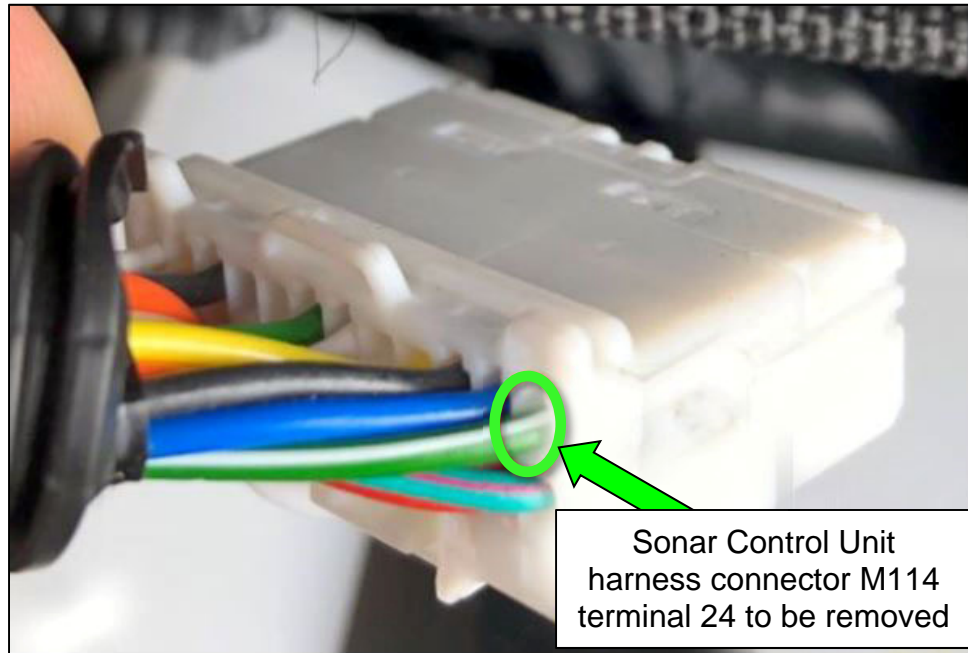

Figure 6
6. Identify the Sonar Control Unit reverse position input wire (Figure 6).